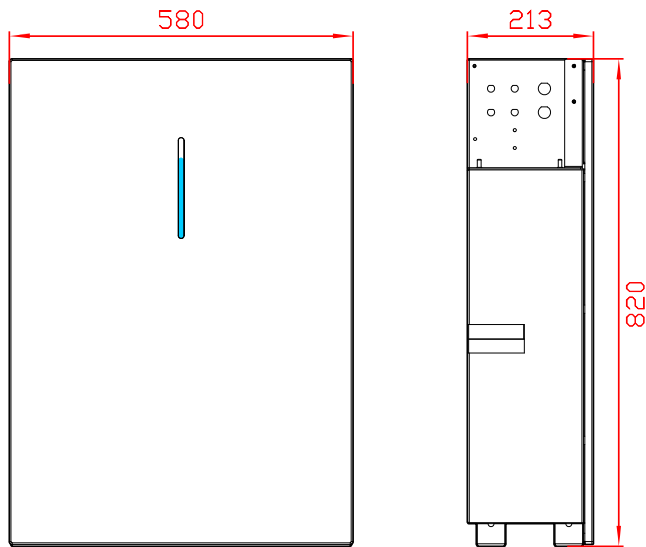

Figure3-7 Size (unit: mm)
- Step 2 Determine the installation place based on the battery size (as shown in Figure3-7) and installation space (as shown in 3.2.3 Installation Space).